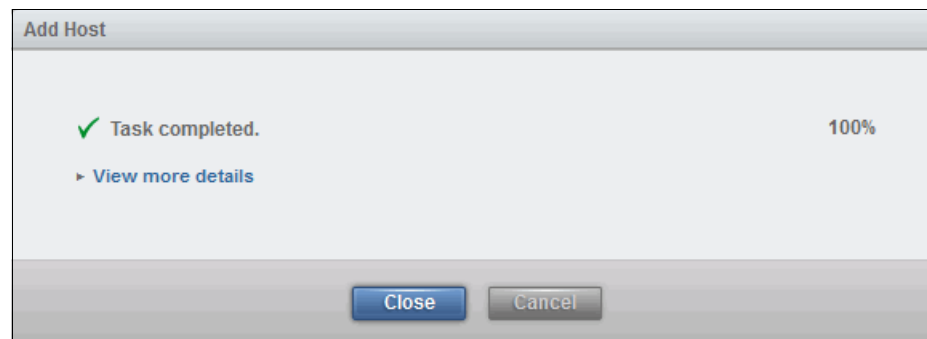

Figure 4-58 Completion of the Add Host wizard
7. Click **Add Host** and the wizard completes, as shown in Figure 4-58.